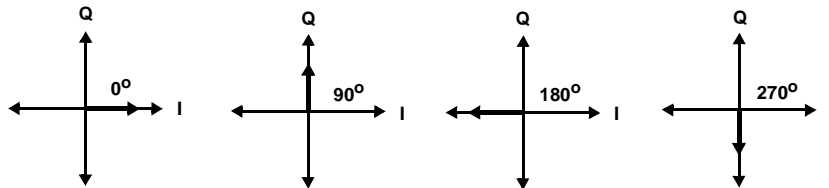
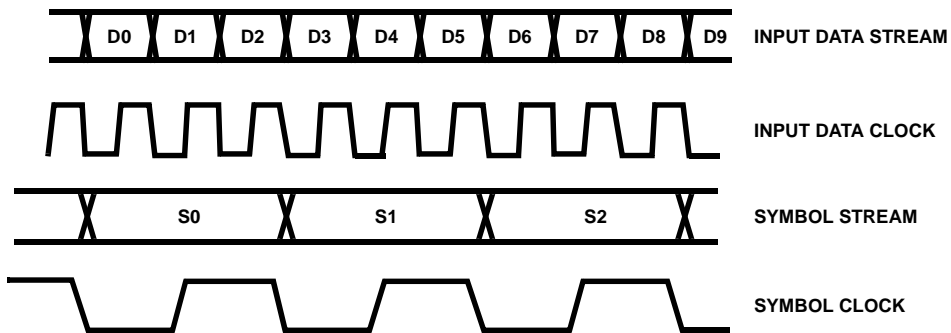
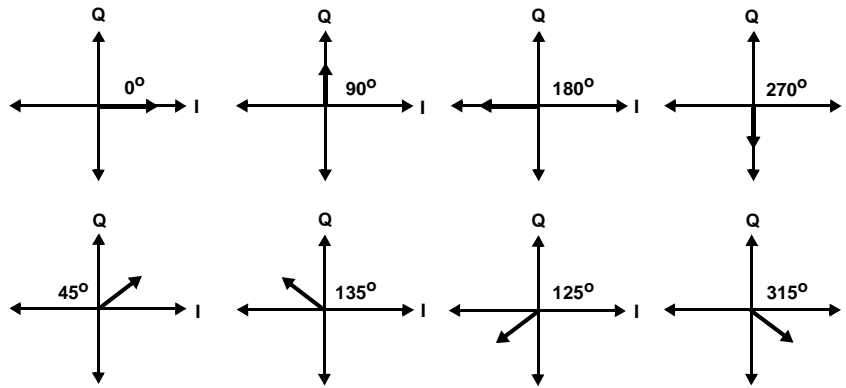

FIGURE 4.
FIGURE 5.
FIGURE 6. VECTOR REPRESENTATIONS OF THE 8PSK SYMBOLS CREATED FROM THREE DATA BITS
in-phase and quadrature components. Two data bits will determine in which of four phase states the carrier will be placed: 0° , 90° , 180° , or 270° . This phase shift is accomplished using the I (in-phase) and (Q) quadrature orthogonal vectors as shown in Figure 4. Figure 5 illustrates the data and symbol relationship for 8PSK, while Figure 6 shows the possible carrier vectors created for a symbol.